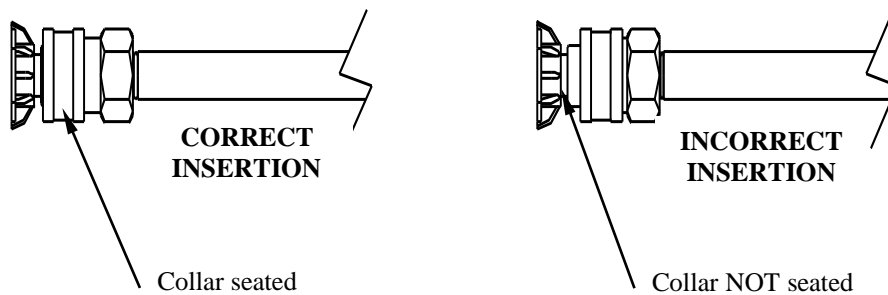

Figure 9b
3. Release the collar, making sure it springs back and re-seats to its original (non-retracted) position (Figure 9b). *Check the connection by pulling on the nozzle to ensure a tight connection -- if correctly inserted, nozzle will rotate but not pull out.*